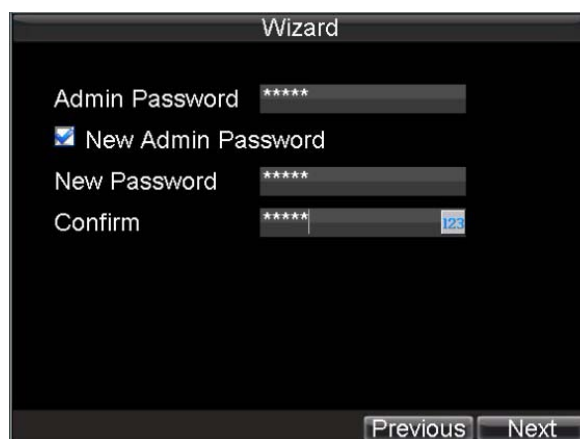

Figure 3. User Permission
- 1) Click the Next button on the Wizard window. This will take you to the **User Permission** window, shown in Figure 3.